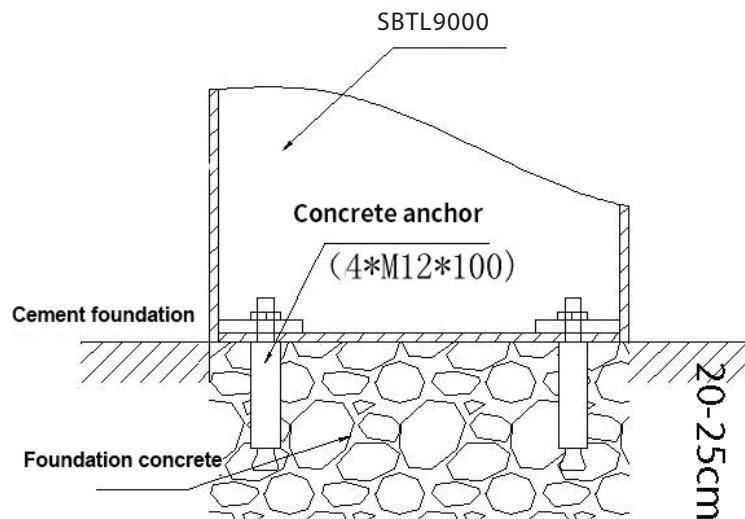

Figure 4-2
3. Drill the holes with J 14 and embed M12 anchor screws or expansion screws. As shown on the Figure 4-2.